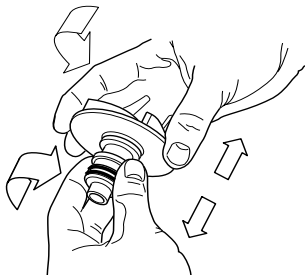

Figure 14
8. Carefully remove rotating half of seal (Key No. 10) from impeller sleeve. Twist as you pull; make sure you do not damage surface of sleeve where seal both seats and seals. See Figure 14.